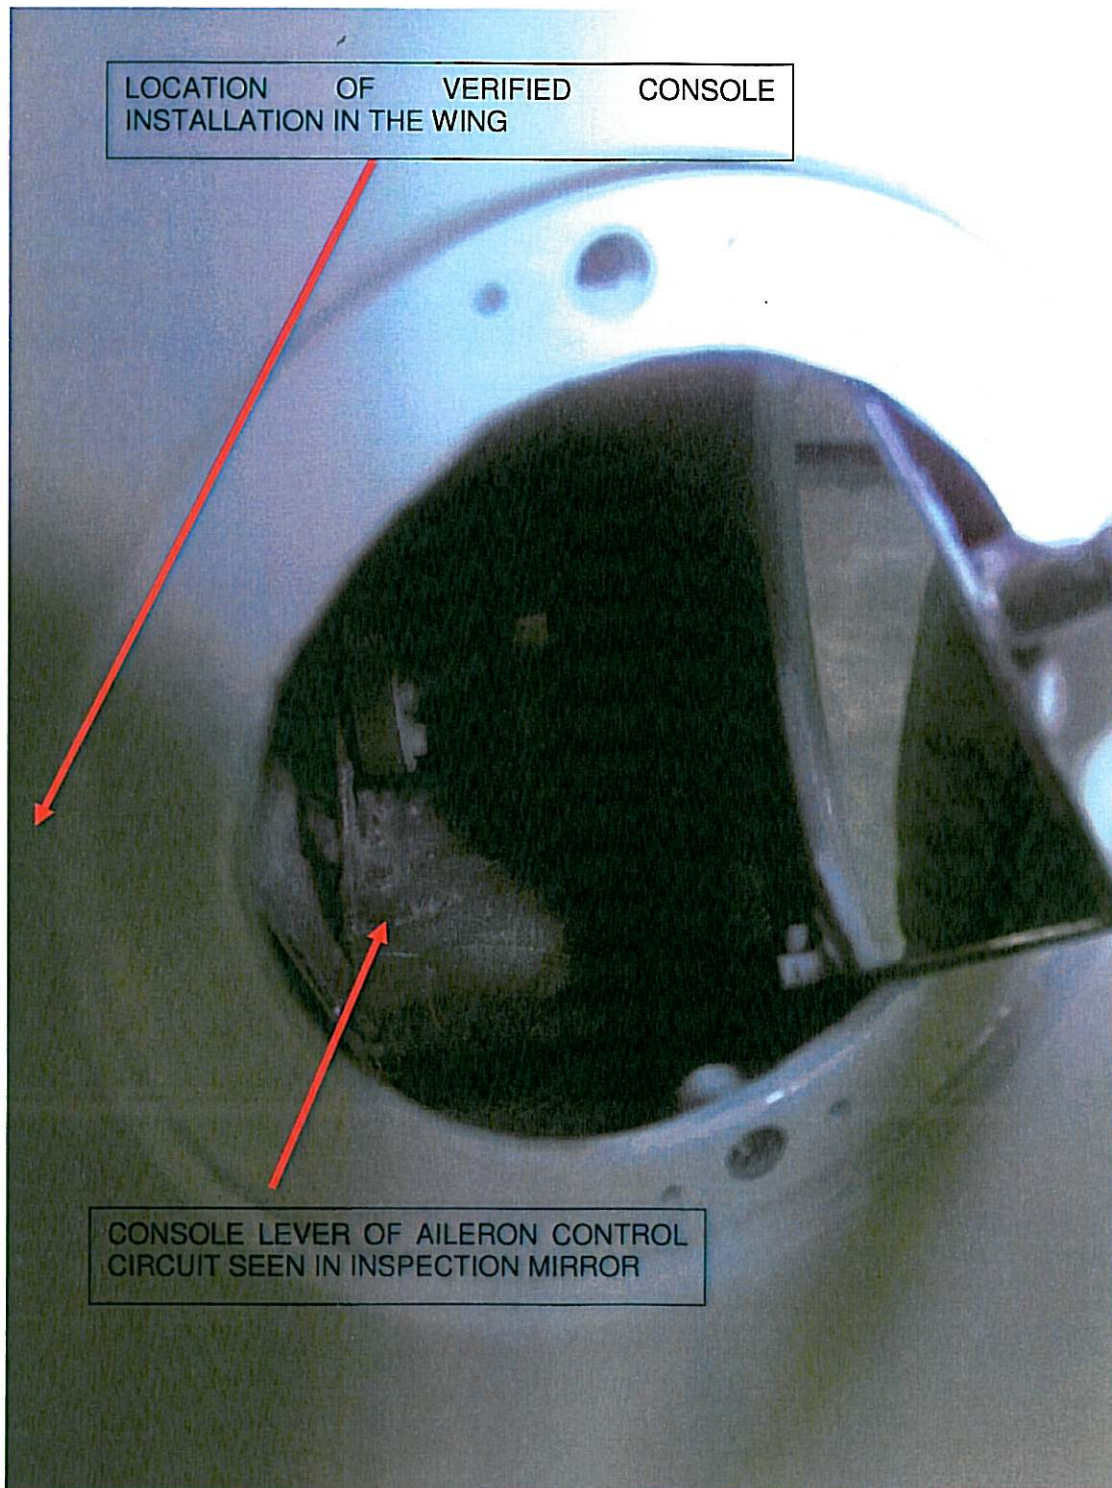

Figure 3. View of the console of aileron control circuit in inspection mirror.
**3.5 Adjust mirror position and point the flashlight in a way to see console lever aileron control circuit, as in Figure 3.**